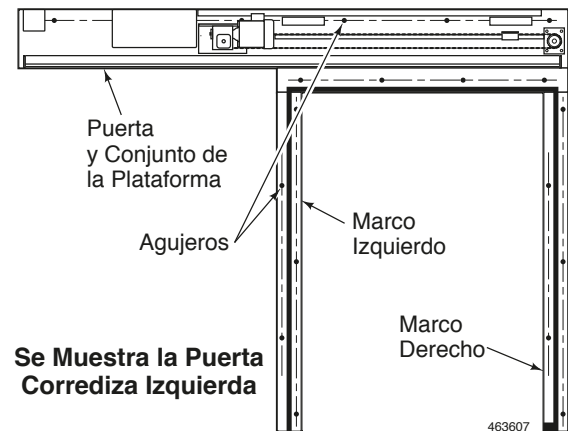

Figure 2
3. At job site, drill 5/16" holes in the frames and headers for mounting to the backing in the wall. Space holes 6" in from the end, then every 36" (18" for track header when nylon threaded rods are used). See *Figure 2*.
See *Figure 2*.